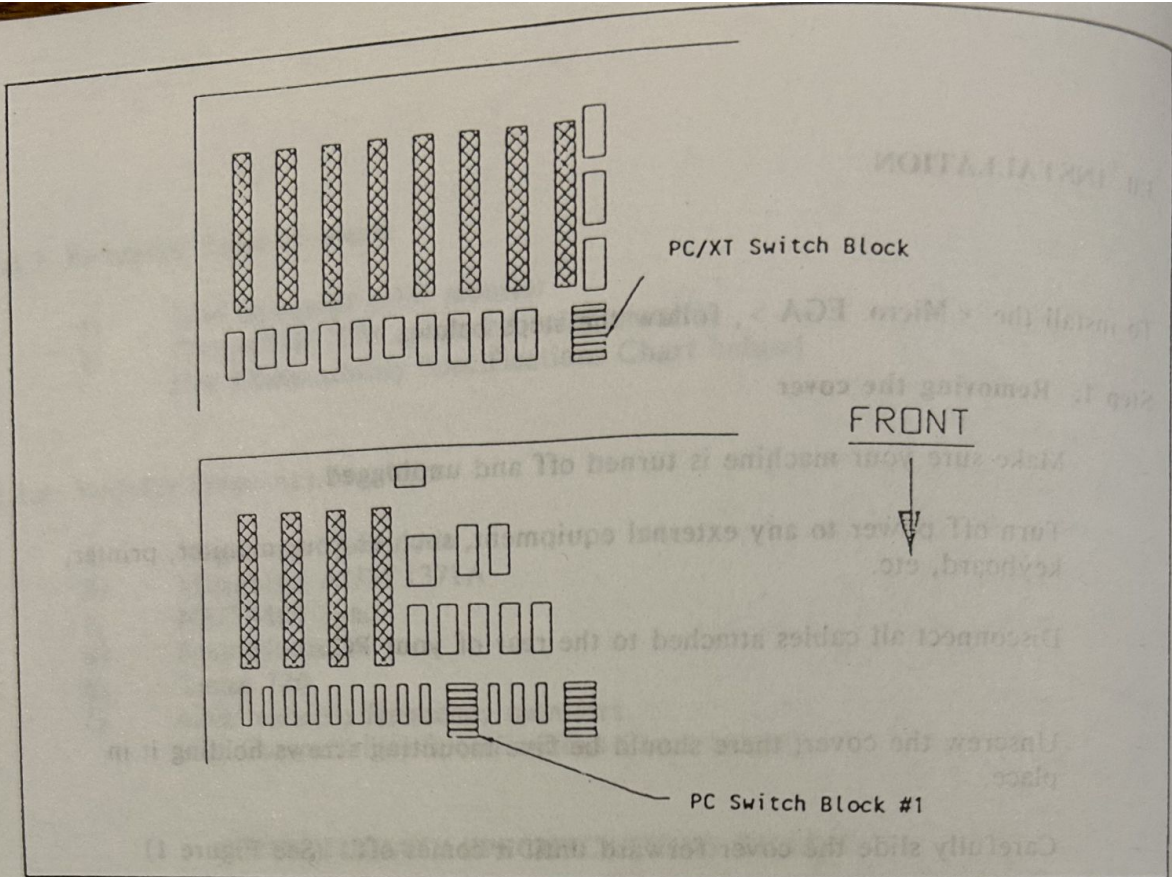

Figure 2
- For PC and PC/XT users: Set switches 5 and 6 on your Switch Block 1 to ON. (See Figures 2 and 3)